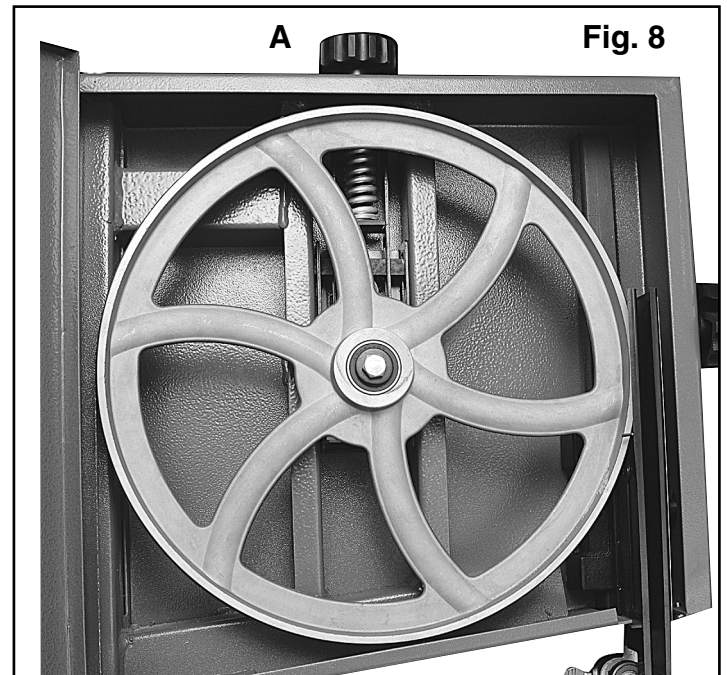

Fig. 8
- If the blade tension is not correct you will need to adjust the blade tension hand wheel. Fig.8 A. There is an indicator that gives you the correct tension for the width of the blade. Fig. 7B.